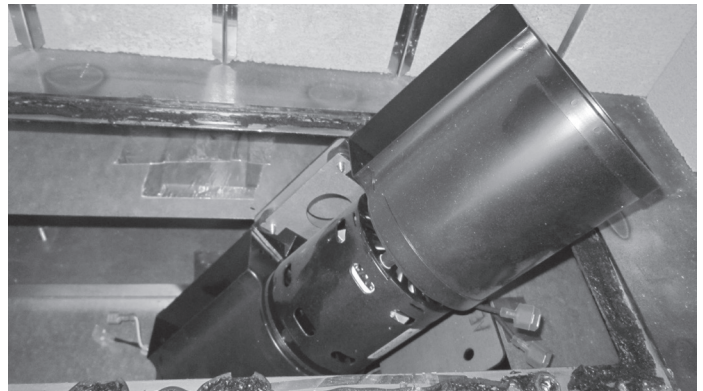

Figure 4.14 Remove Fan from Access Hole
5. Lift the fan up and off of the locating pins and remove up through the access hole. See Figure 4.14.